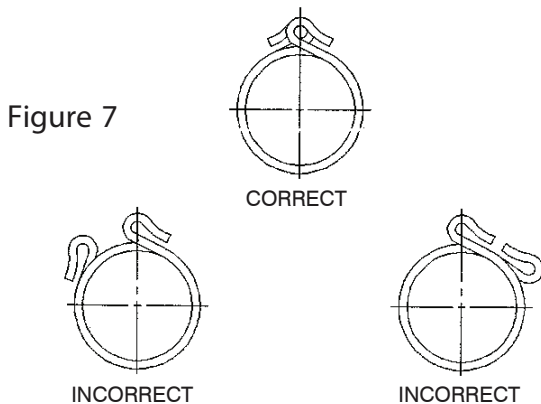

Figure 7
4. Make sure the spring bolt ears are aligned with each other to assure spring is in neutral position. See Figure 7.